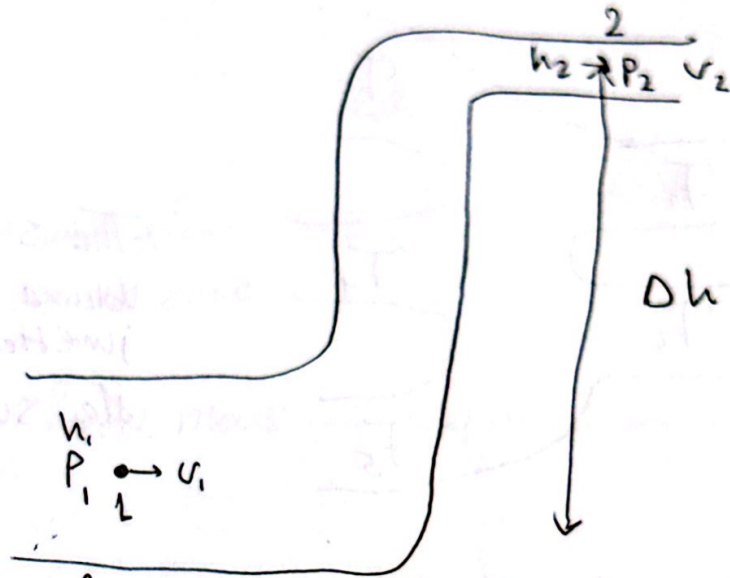

Figure 2
- So the change in pressure gives us the change in K.E per unit volume, as in figure 2